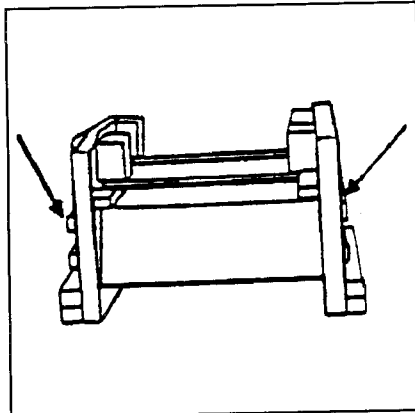

Figure 2-10. Remove Sound Shroud
- f. Grasp the yellow foam end caps and lift to remove the sound shroud and wire form assembly from the box. Place it on a flat surface to disassemble (see Figure 2-10).